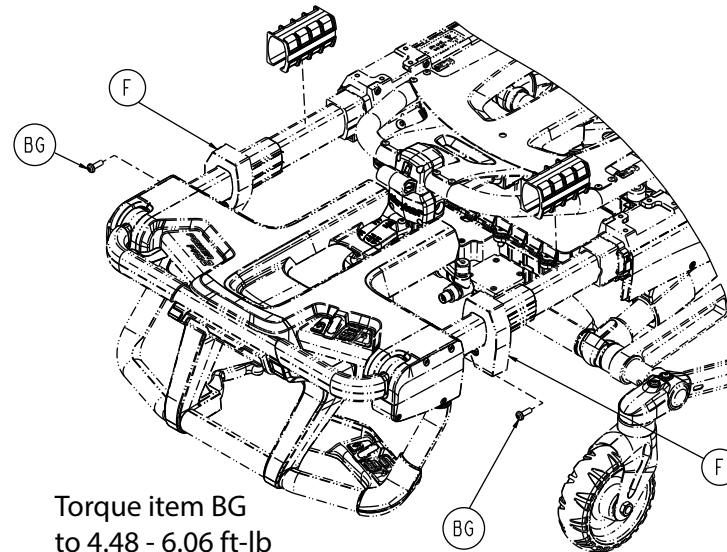

Figure 115 –
9. Using a T30 Torx driver, remove the pan head machine screw (BG) that secures the outer rail end cap (F) to the outer rail (Figure 115). Repeat on the other side. Save the screws.